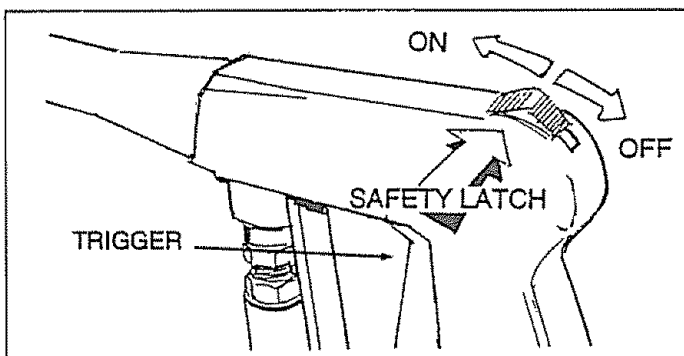

FIG. 20
- Adjust safety latch to the ON position. This disables the trigger so you cannot inadvertently actuate a high pressure spray (Fig. 20).